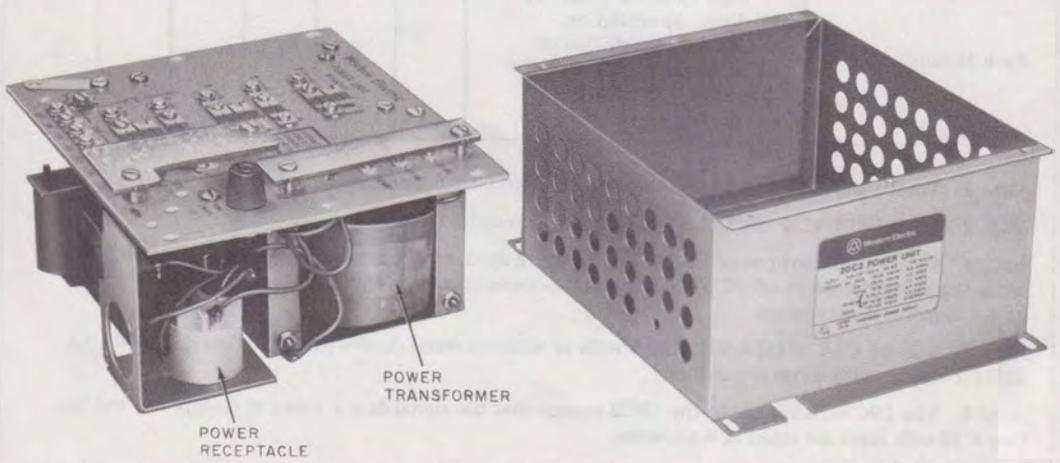

Fig. 4—20C2 Power Unit (Rack Mounted) Enclosure Removed to Show Power Receptacle
20C2—20A2 with hardware for mounting in a Key Service Unit or relay rack (see Fig. 4).
- (1) Fasten the backboard plate assembly, P33A830, to the wall as covered in Section 463-130-200, or in accordance with local instructions.
- (2) Hang the power unit on the backboard and secure it with the machine screws provided.
3.03 The 20C2 power unit is mounted on an equipment rack using the four mounting holes on the metal enclosure (Fig. 4). Fasten with the machine screws provided.
provided on the mounting flange on the 20C2 unit (see Fig. 4). Dress the wires along the left side of the panel and below the ground terminals.